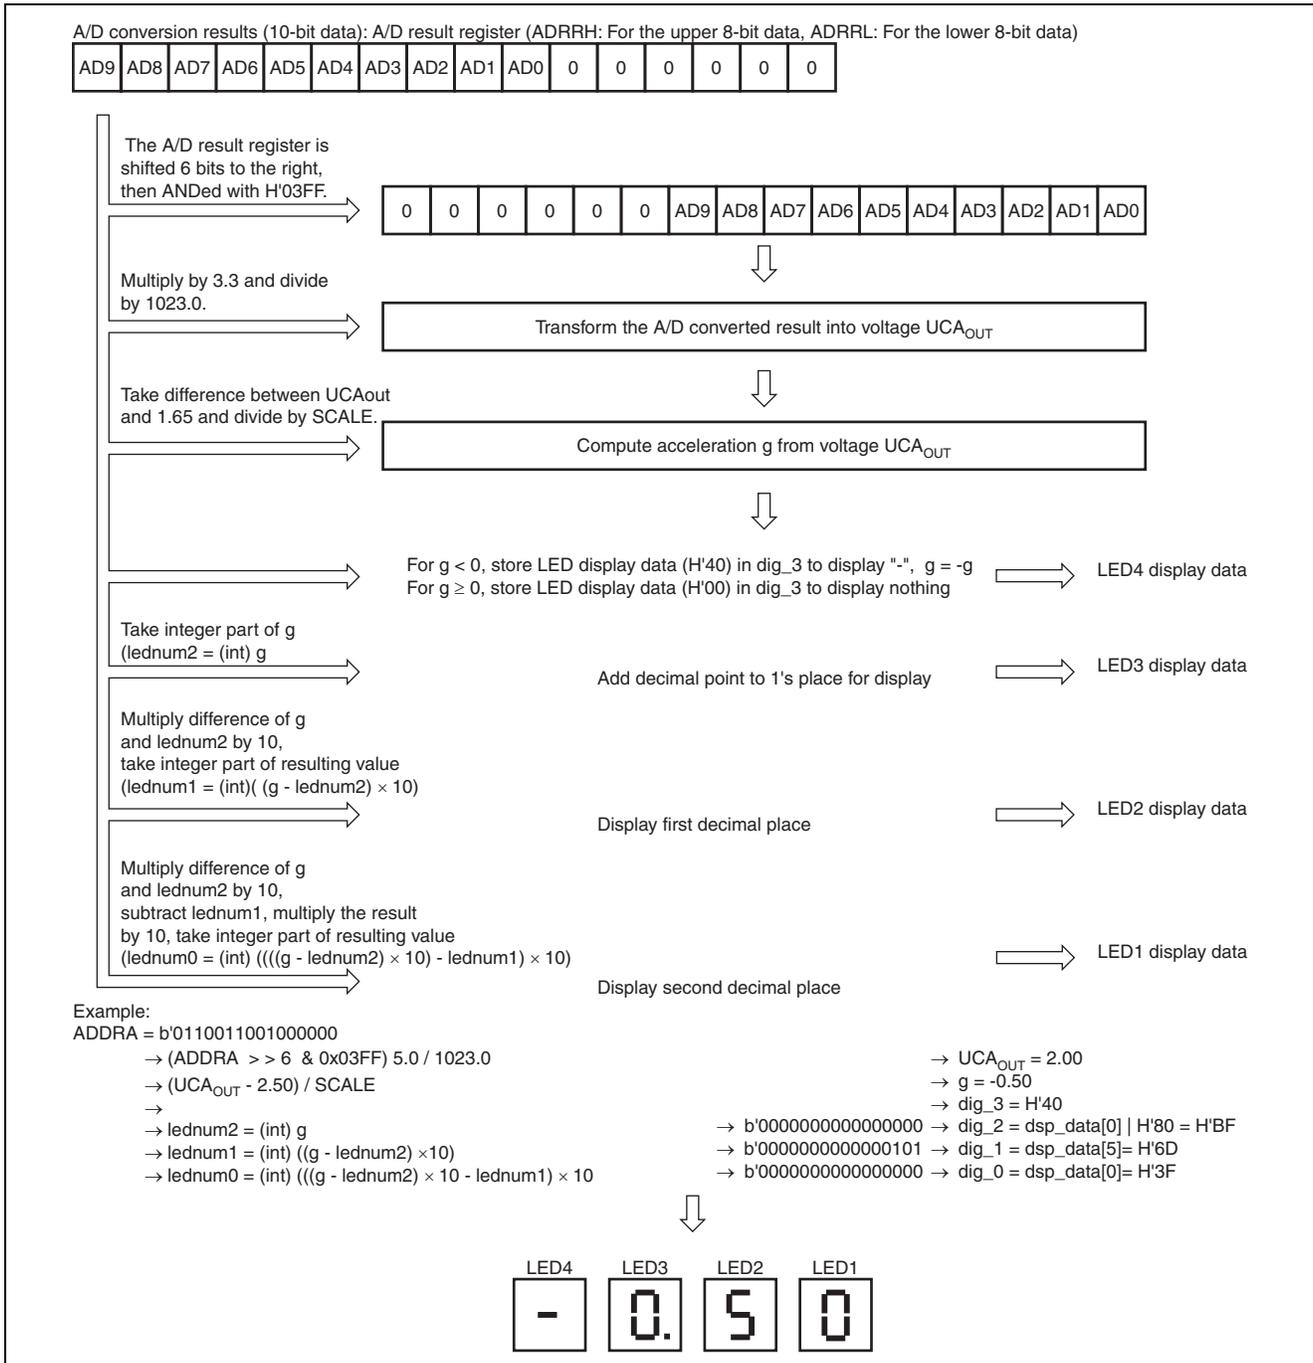

Figure 1.4 How A/D Conversion Results are Displayed on the LEDs
9. In this sample task, the acceleration value (units: g) is displayed to two decimal places on 7-segment LEDs. Figure 1.4 shows how this is done.